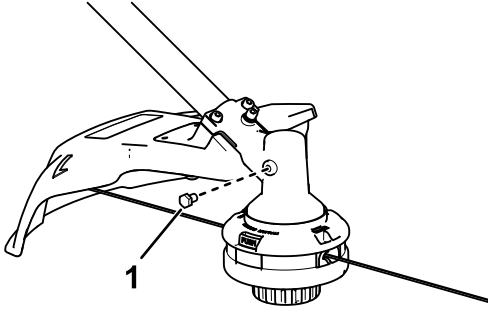

Figure 15
3. Remove the plug from the side of the trimmer (**Figure 15**).